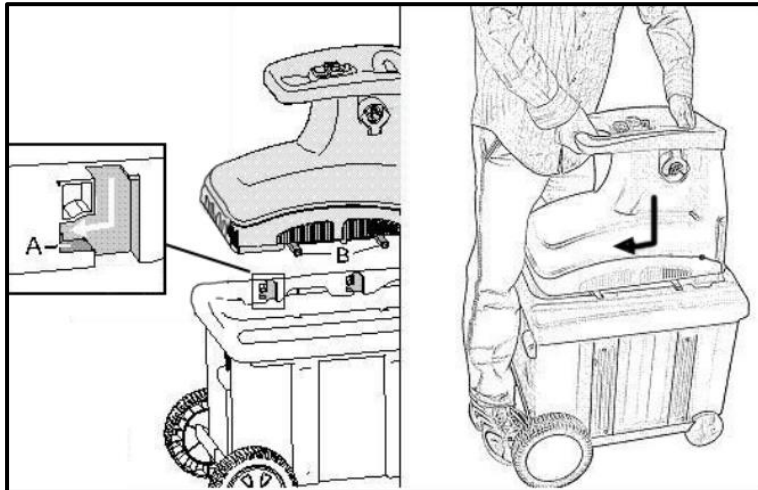

Fig.8
7. Stand and put hands in position as shown in Fig.8. Lay the motor unit on the base frame by placing four protruding supports (Item B) of the motor unit on the slots (Item A) of the base frame.